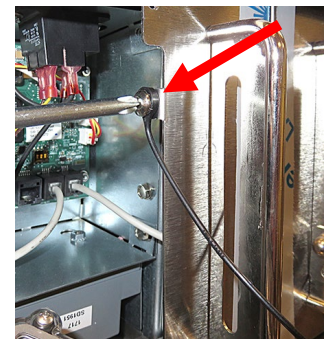

Figure 72
72. Reconnect the controller lanyard **FIRST** (see Figure 72).